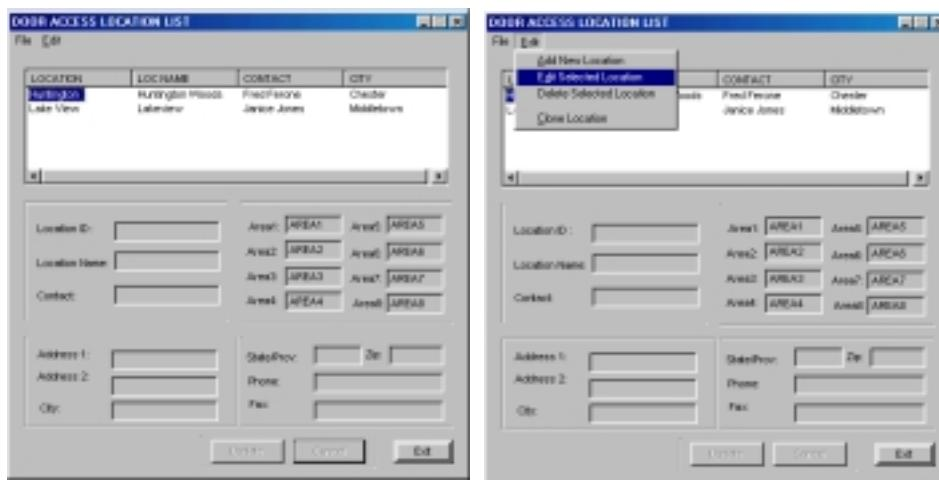

Figure 11.15 Editing a Location
1. In the Door Access Location List Window select the location to edit from the Locations List Window (Figure 11.15).
2. Select Edit Selected Location from the Edit drop-down menu (Figure 11.15).